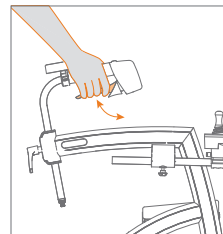

Figure 29: Release the parking brake.
- d. To remove the walker from the parking position, squeeze the brake handles again and release them (**Figure 29**). The rollator is not in parking position anymore.